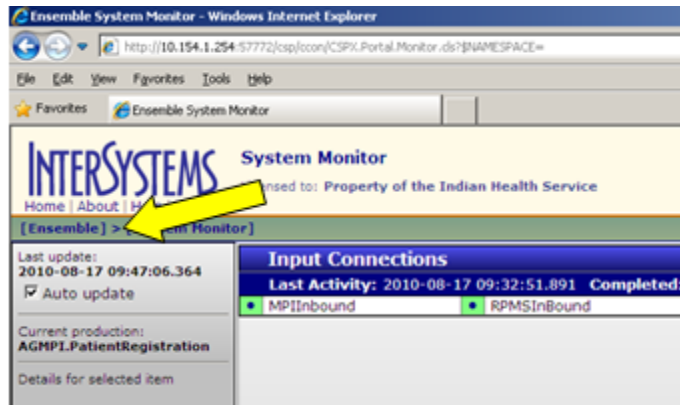

Figure 3-9: **System Monitor** page
**Note:** Some pages in the Ensemble Management Portal do not have a menu on the left side of the page. On these pages, navigate to the Ensemble Management Portal home page, which has a menu, by clicking the **Ensemble** navigation link located above the display area, as shown in Figure 3-9.